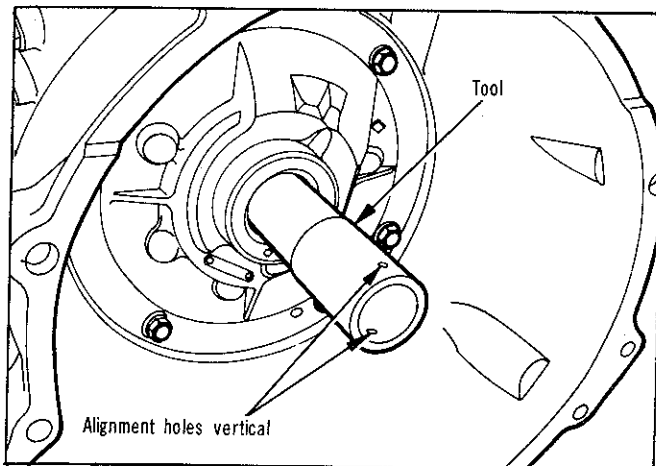

Fig. 68—Aligning pump rotors
(1) Rotate pump rotors with Tool E21C35E until the two small holes in handle are vertical (Fig. 68).
(2) Carefully slide converter assembly over input shaft and reaction shaft. Make sure converter impeller shaft slots are also vertical and fully engage pump inner rotor lugs.
Test for full engagement by placing a straight edge on face of the case (Fig. 68). The surface of converter front cover lug should be at least 12 mm ( $\frac{1}{2}$ ") to rear of straight edge when converter is pushed all the way into the transmission.